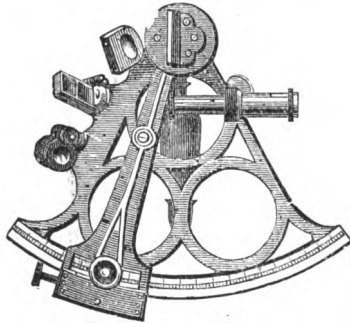

Fig. 2.
is a telescope. On looking through the telescope at T, the horizon  $h$  may be viewed through the clear part of the horizon glass by direct vision, and the index arm may be moved round till the reflected image from the mirror I coincides with the horizon. The angle N between the mirror I and the horizon glass H will then be half the angle  $s\ o\ h$ . The arc R though really but  $60^\circ$  of a circle is divided into  $120^\circ$ , so that the reading correctly denotes the angle  $s\ o\ h$ . When the index arm points to zero, z, the faces of the mirror and horizon glass are parallel. For the engraving of the finished instrument (Fig. 2), I am indebted to Mr. John Short.
**Shaping. Sinking.**—[Former. Noyer.—Gestalten. Senkiren.]—A kind of drilling tool, shown in Fig. 1, carrying a milling cutter in the vertical spindle, is useful for shaping, cutting sinks in plates and dies, and a variety of similar work often accomplished by hand cutting and filing at ten times the cost. There is a double action slide for moving the work, which is fixed to the circular table, and the table also turns on its centre, so that curves of any size within the limits of its radius may be cut. Fig. 2 is an adjunct to the American lathes for doing the same kind of work.